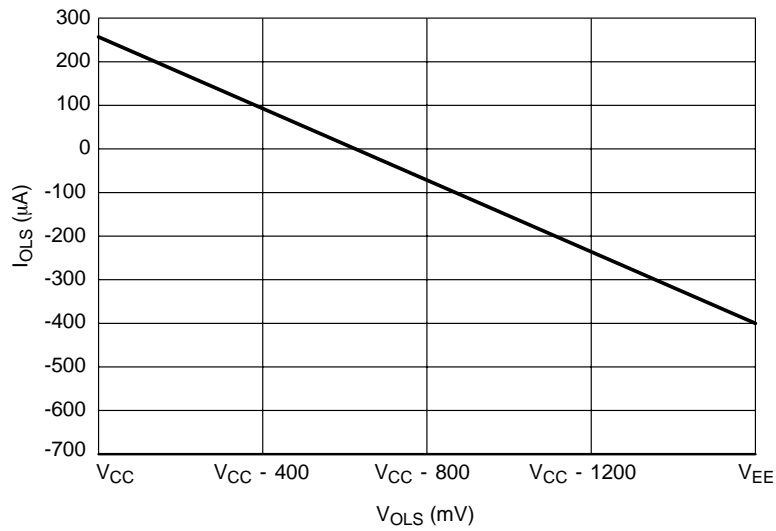

**Figure 10. Duty Cycle % vs. Input Frequency ( $f_{in}$ )**
30. See Figure 10. Duty Cycle % vs. Frequency.
34. See Figure 10. Duty Cycle % vs. Frequency.